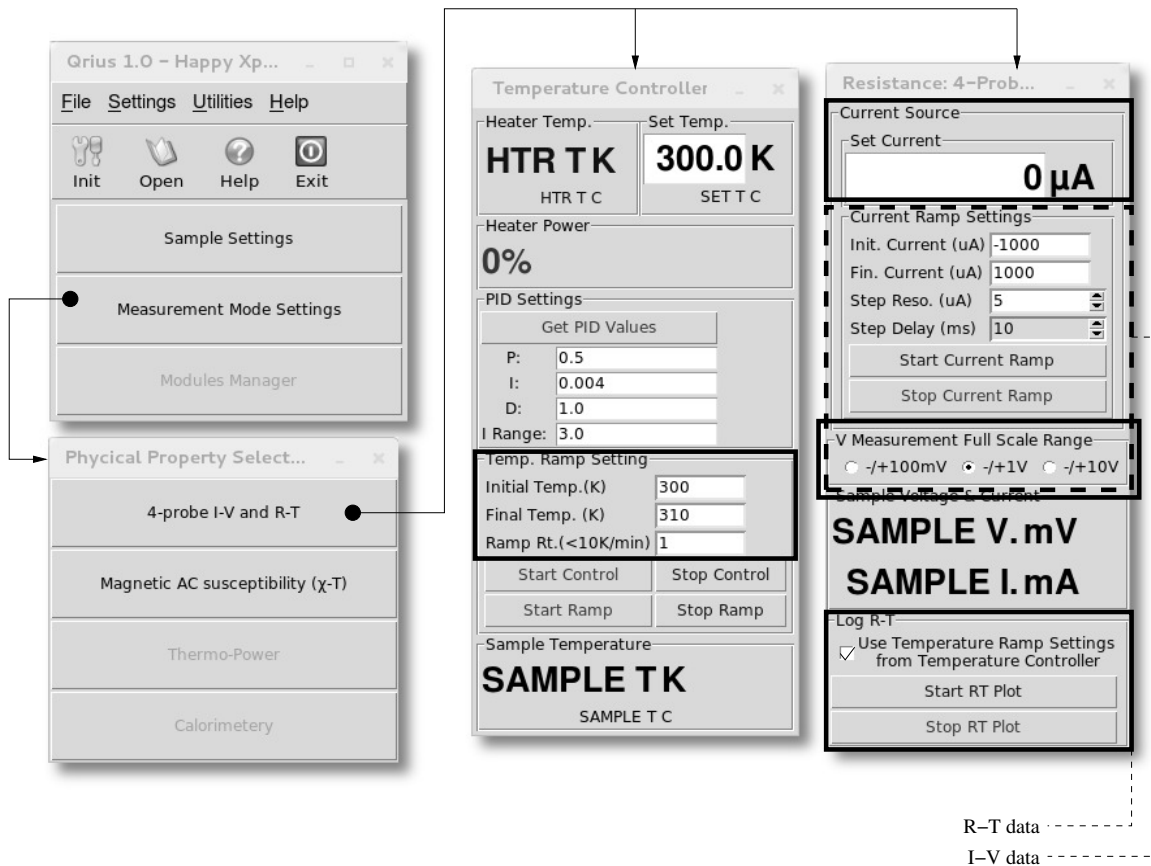

Figure 2.3: Settings to acquire  $R$ - $T$  data.
- Launch Qrius and open **4-probe  $I$ - $V$  and  $R$ - $T$**  module as shown in Figure 2.3. Consider the solid rectangles.